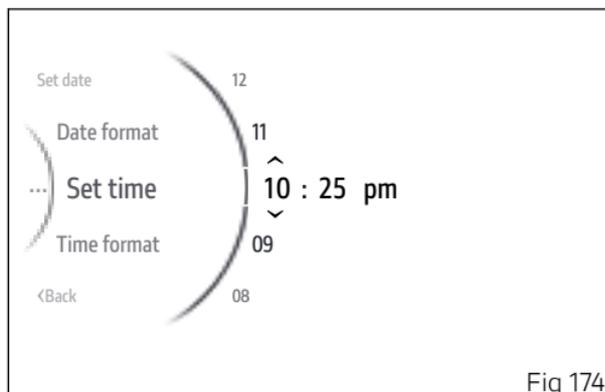

Fig 174
- From the Interactive Menu, use buttons (1) and (2) to select the item "Setting menu" and press ENTER (3).
- Select the "Date and time" item and press ENTER (3).
- Select the "Set time" item and press ENTER (3).
The hour number becomes selectable and is displayed with two arrows placed above and below it; the available values are also displayed above and below the selected parameter (Fig 174). Use buttons (1) and (2) to scroll and select the desired value. Press ENTER (3) to confirm and move on to the number of the minutes.